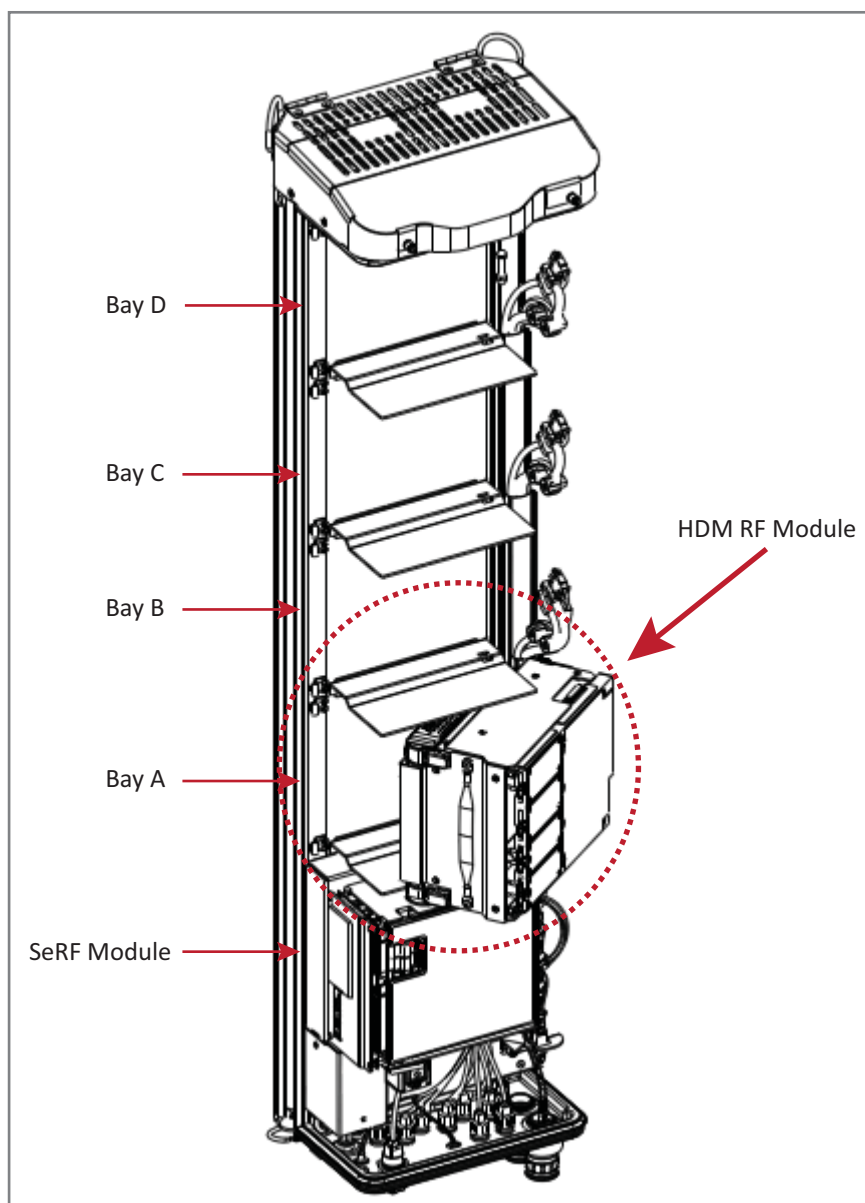

Figure 22. Installing an HDM RF Module
- HDM RF Module: Figure 22 on page 91